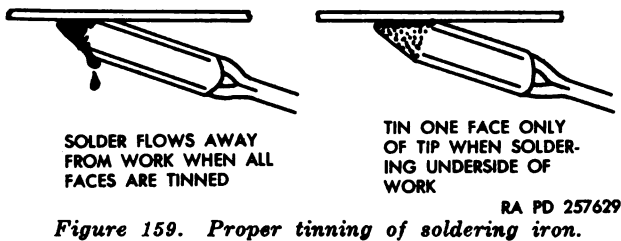

Figure 159. Proper tinning of soldering iron.
all four faces. For work where the iron is held under the object to be soldered, as when soldering wire splices, only one face is tinned (fig. 159). Molten solder on a tip with all faces tinned will not remain on the upper face, but will run to the bottom, forming a drop. When only one face is tinned and that face is turned up, solder melted upon it will not drip off. Tin an electric soldering iron as indicated in (1) through (4) below.